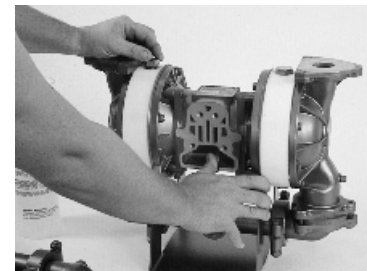

Fig. 4 Purge air in pump by moving diaphragm rod.
5. After filling with the proper amount of liquid, if the liquid does not come to the top of the fill hole, pressure should be applied to the Teflon diaphragm with a blunt tool through the discharge material flow port in the outer chamber until it does come to the top (see Figure 4). To facilitate this filling, a taper punch can be used in the hole of the rod to manually shift the pump.